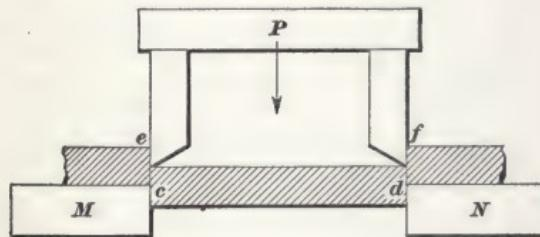

FIG. 7.
Fig. 7 shows a piece in double shear; here the central piece  $c d$  is forced out while the ends remain on their supports  $M$  and  $N$ .
**EXAMPLE.**—If the beam in double shear shown in Fig. 7 is rectangular and measures 4 in.  $\times$  2 in., what steady safe load would you allow if the beam were made of structural steel?